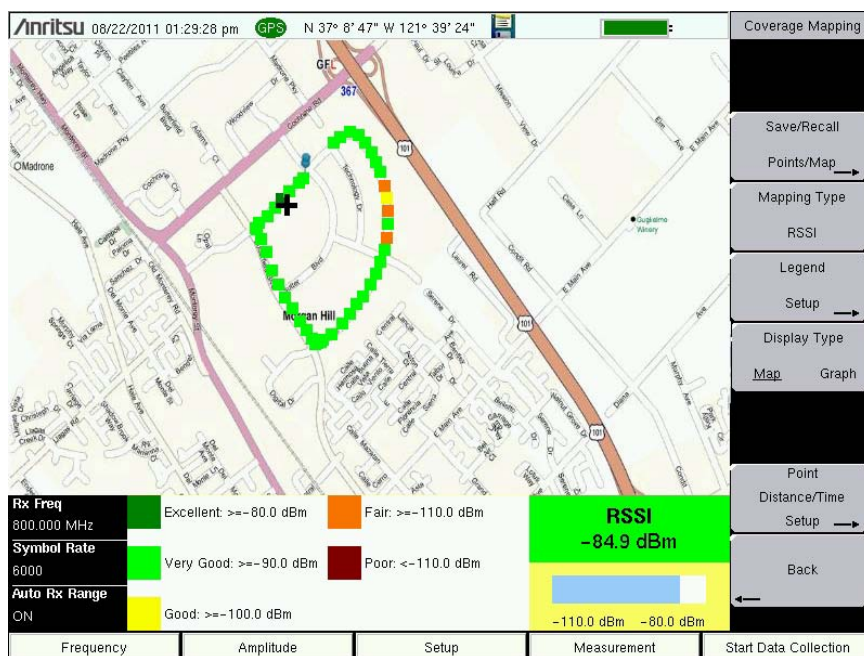

Figure 3-13. Coverage Measurements
- 1. Press the **Measurement** main menu key, then press the NBFM Coverage submenu key twice (Figure 3-13).
1. Press the **Measurement** main menu key, then press the P25 Coverage, P25p2 Coverage, NXDN Coverage, dPMR Coverage, DMR Coverage, PTC Coverage, or TETRA Coverage submenu key twice (Figure 3-13).